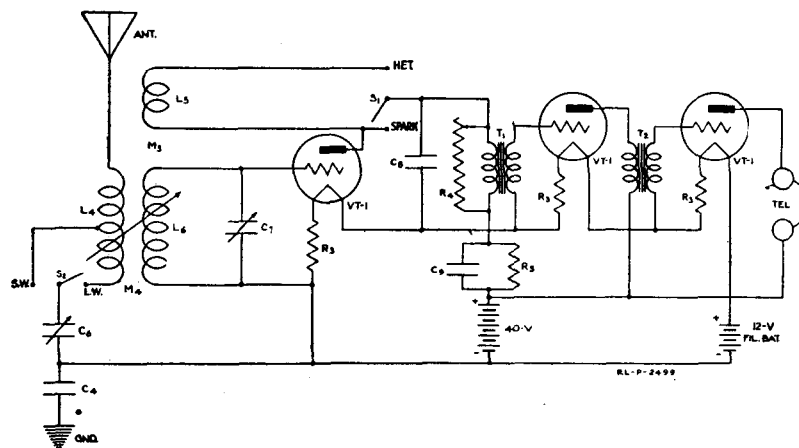

Fig. 70.—Schematic diagram of connections in the receiver of the SCR-79-A set.
- (5) *To which binding post is the antenna connected? The ground?*
- (6) *Where is the storage battery connection made? Does this supply the filaments of both transmitting and receiving tubes?*
- (7) *Why does the storage battery have a voltage of 12 volts with this set when the VT-1 requires only a 4-volt battery to light its filament?*
- (8) *What controls are varied on the front of the panel to change the primary receiving wave length?*
- (9) *Which controls are varied to change the secondary receiving wave length?*
- (10) Which controls are varied to change the receiving set from a damped wave receiver to an undamped wave receiver? What does this switch do to the receiving set? (See Diagram, Fig. 70.)
- (11) How is the strength of the received signal varied?
- (12) What is the purpose of the two binding posts marked "REC"?
- (13) How many pairs of telephones can be plugged into this set?
- (14) Can the filament current of the receiving tubes be varied or is it constant? Explain the answer.
- (15) Why are rubber mountings used for the tube socket strip?